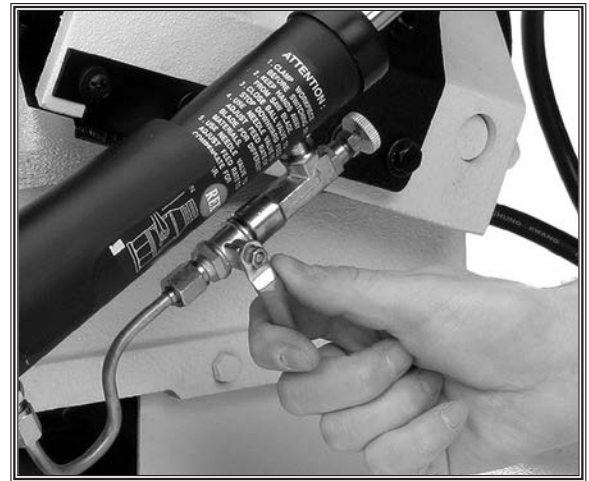

Figure 38. Stopping the feed cylinder.
2. Raise the headstock to the vertical position and close the feed valve to lock the headstock in place (see Figure 38).